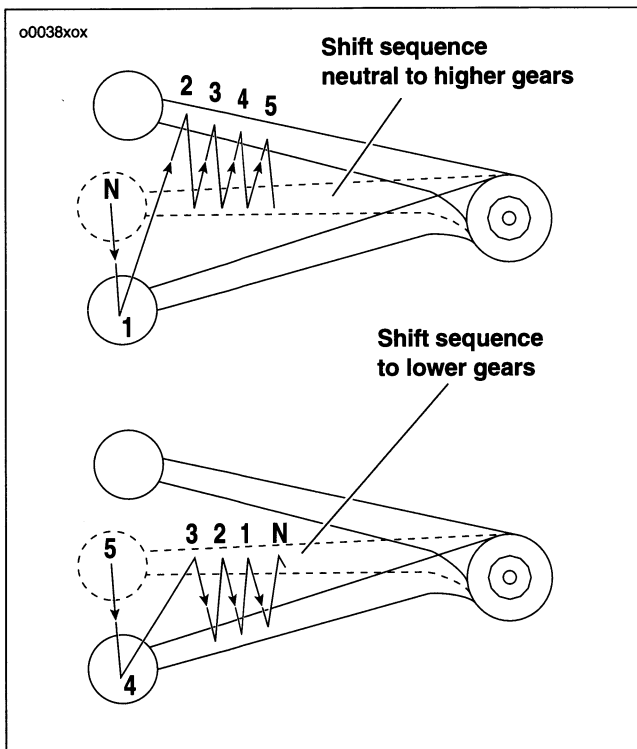

Figure 29. Speed Shifting Sequence
See Figure 29. Always start motorcycle engine in neutral. Always start motorcycle from first gear when the engine is running.
See Figure 29. To start moving with motorcycle upright and engine idling:
5. See Figure 29. Gear shift pattern is first gear down; next four gears up.